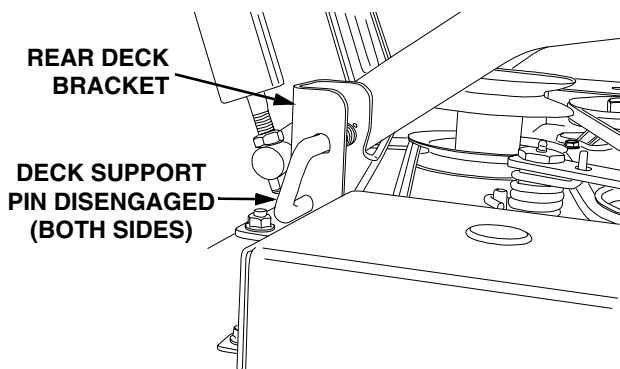

Figure 44
9. Pull the deck support pins outward, turn downward and release so both spring-loaded pins are held in the disengaged position against the outer surface of the deck brackets (Refer to Figure 44).